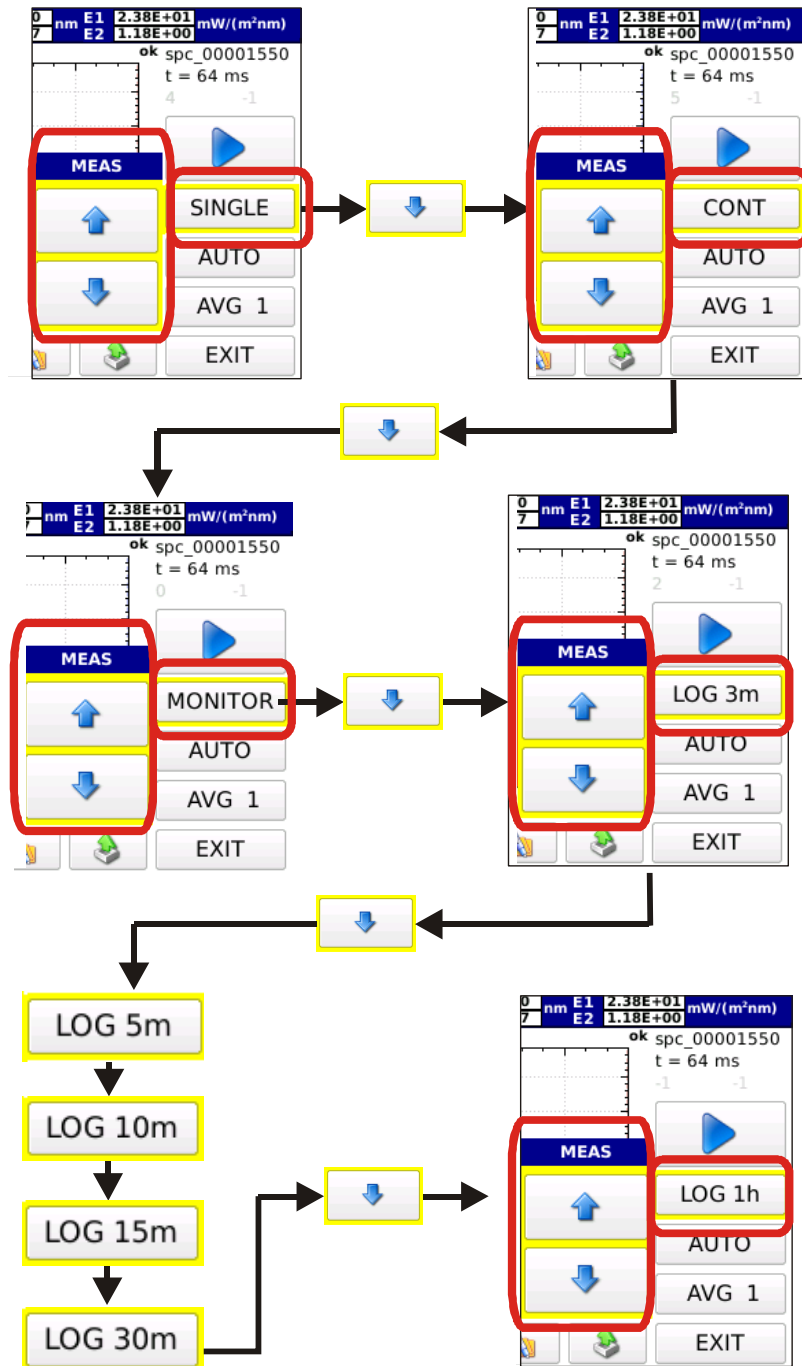

Fig 3.18: Select the operating mode using the arrow keys.
3.3.1 Select the operating mode of the instrument among the four available modes (SINGLE, CONTINUE, MONITOR, LOGGING). Press **SINGLE** display two scroll cursors, press **↓** to change the operating mode as shown on figure 3.18.